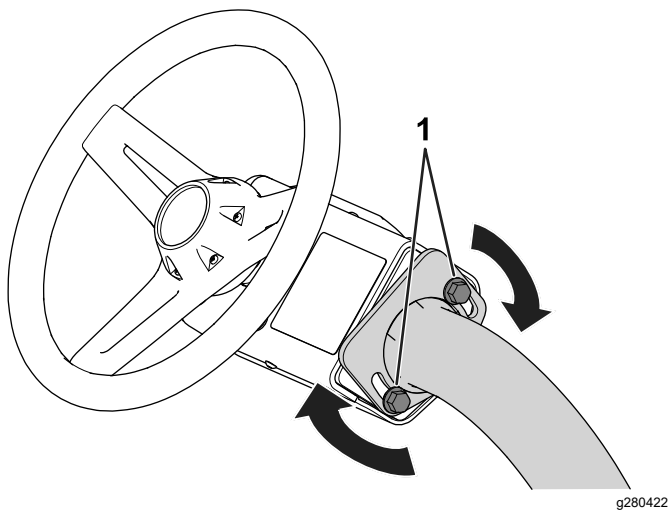

Figure 36
1. Loosen the bolts (Figure 36) that secure the steering-wheel assembly to the steering arm.
3. Tighten the bolts (Figure 36) to secure the steering-wheel assembly in your adjusted position.